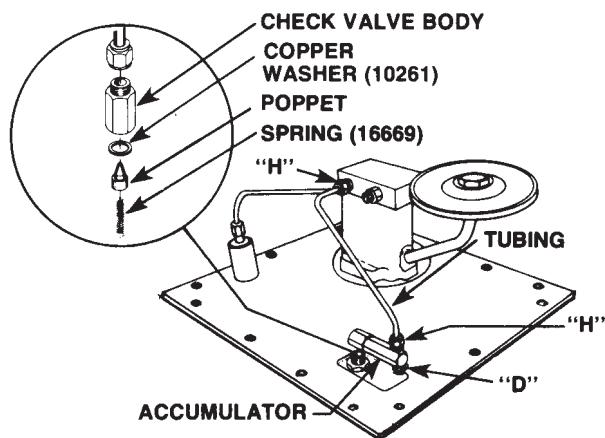

FIGURE 7
5. Remove the poppet (see Figure 7 Inset) and insert the supplied Spring, (Part Number 16669, [.032" dia. wire $\times$ 1 1/4" lg.]) in the poppet. Replace the copper washer with the supplied Copper Washer, Part Number 10261.
6. Reassemble the poppet, new copper washer, spring and valve body as shown in Figure 7 Inset and tighten securely.
9. Assemble the adapter into the threaded hole that the pipe plug was removed from. (See Figure 7.)
10. Insert the pipe nipple (Figure 7, Item "D") into the threaded hole located in the valve pad on the cover plate.
11. Position the accumulator as shown in Figure 7 and screw the accumulator onto the pipe nipple.
12. Assemble the $\frac{3}{16}$ " tube assembly as shown in Figure 7. Tighten the fitting nuts "H" securely but do not over tighten.